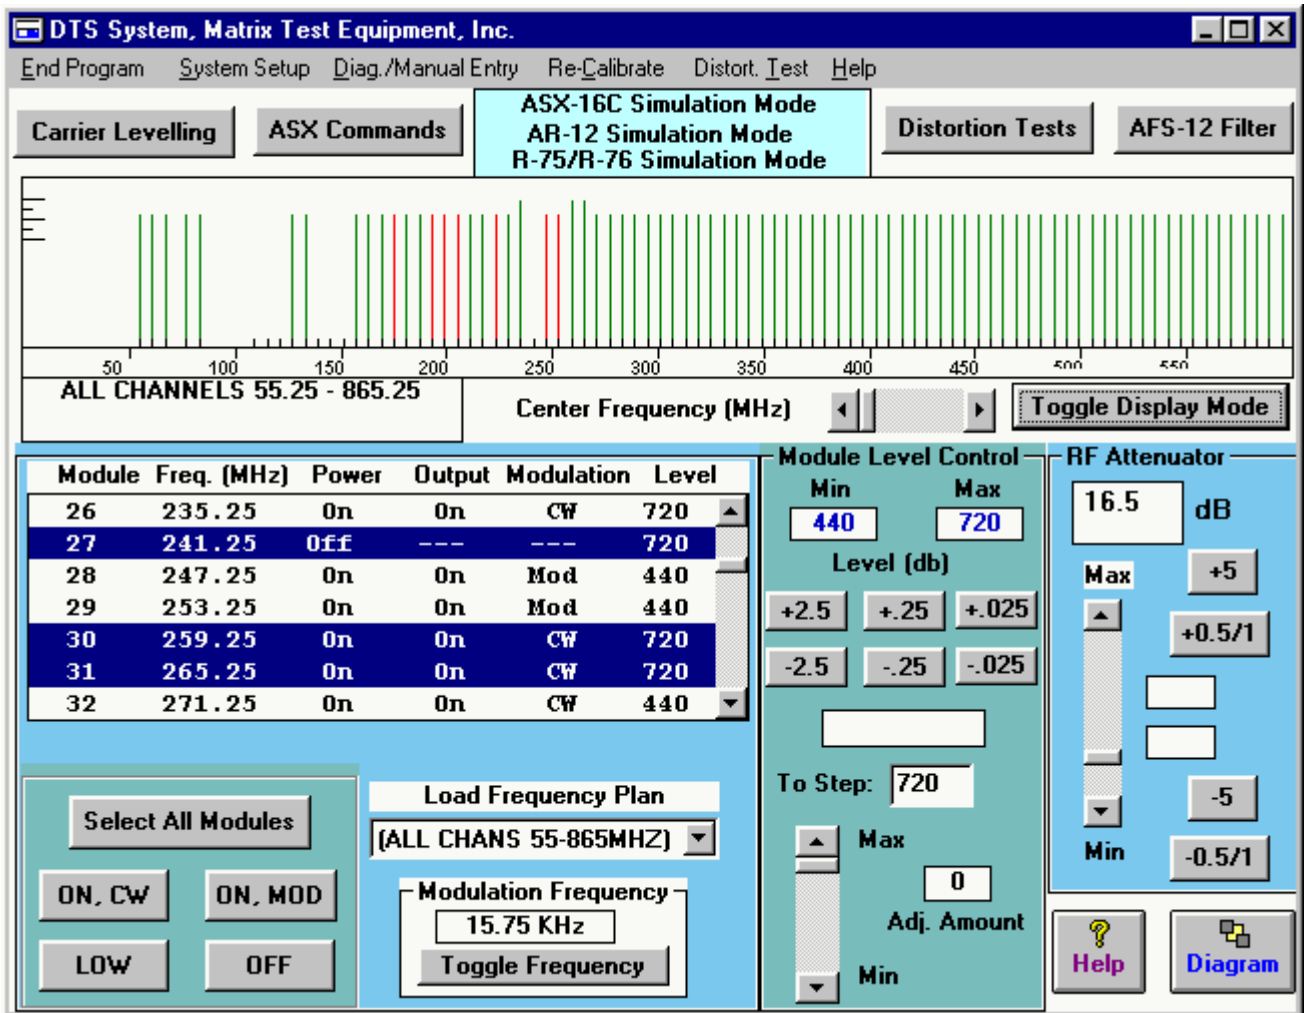
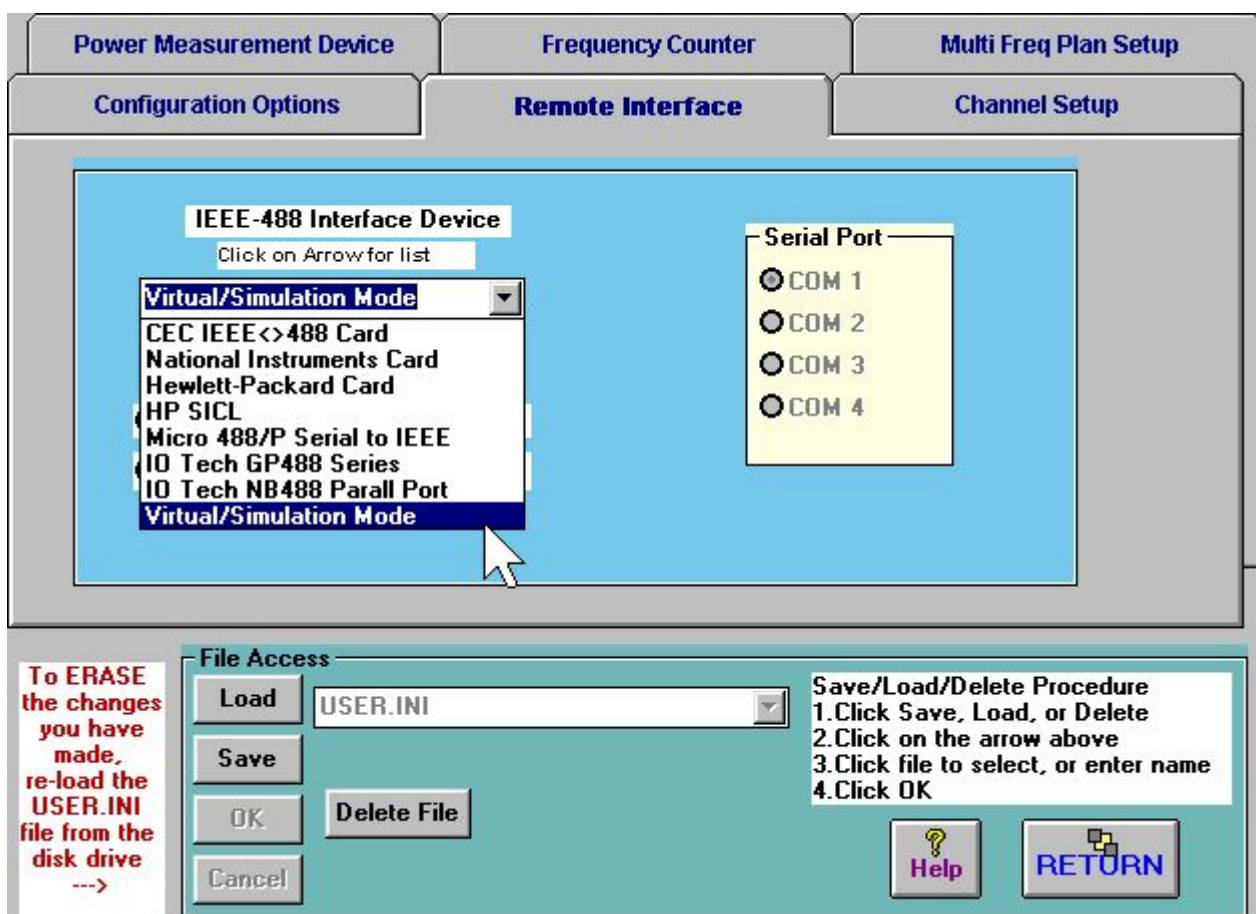

Fig. 3
Fig. 4a
The first control panel of “The Control Program” after initialization is complete, is the main ASX16 Control Panel (See Fig. 3) for initiating all operations and calibrations of the ASX16 generator. Modules may be turned on or off in continuous wave (CW) or modulated, attenuation may be set, and control panels for: system setup, manual command entry, AFS-12 filter selection, carrier leveling, re-calibration, and distortion test set up may be selected.
To get to this panel select the **System Setup** option on the top menu bar of the Main Control Panel. (Fig. 3). This panel presents a group of tabs to select from (see Fig. 4a). Fig. 4a illustrates how to select the Remote interface. The list of interfaces is displayed after clicking on the arrow, and the mouse pointer selects the **Virtual/Simulation Mode** indicating that the program is to be run without any test equipment.
From the Main panel of the CATV Equipment Control Program, click on the arrow on the list box control on the lower right portion of the screen above the label "**Load Frequency Plan**" (See Fig. 3). A list of frequency plans should pop up. Click on one of the plans to select it. Note: If you have a multiple output generator, it may be necessary to connect your power measuring device to the appropriate output jack on the Matrix generator to observe the signals in the desired group of carriers.